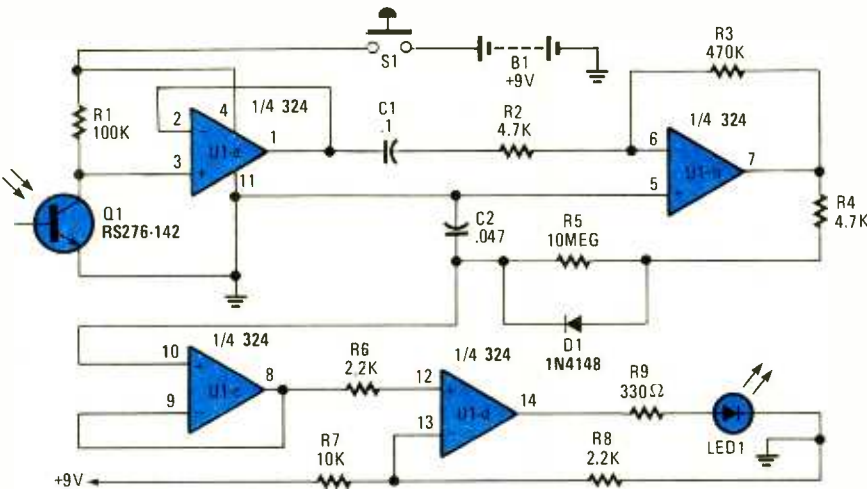

Fig. 3. Built around a 324 quad op-amp and an IR transistor, this circuit can be used to check the operation of any IR transmitter.
**IR Detector.** Here's a good, hassle-free, and inexpensive infrared detector. See Fig. 3. Using that detector circuit, any IR pulse, even short ones, detected by Q1 causes LED1 to come on and stay on for about two seconds. Similarly, should you check a steady source of infrared, LED1 comes on each time you wave the probe in front of the IR source.